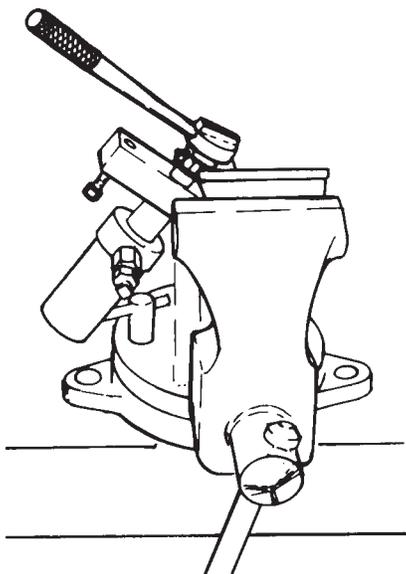

FIGURE 2
1. Place the arm of the swing clamp in a vise, and loosen the cap screw located on top of the arm. See Figure 2.
1. Place the arm of the swing clamp in a vise, and loosen the cap screw located on top of the arm. Remove the arm of the swing clamp. See Figure 2.